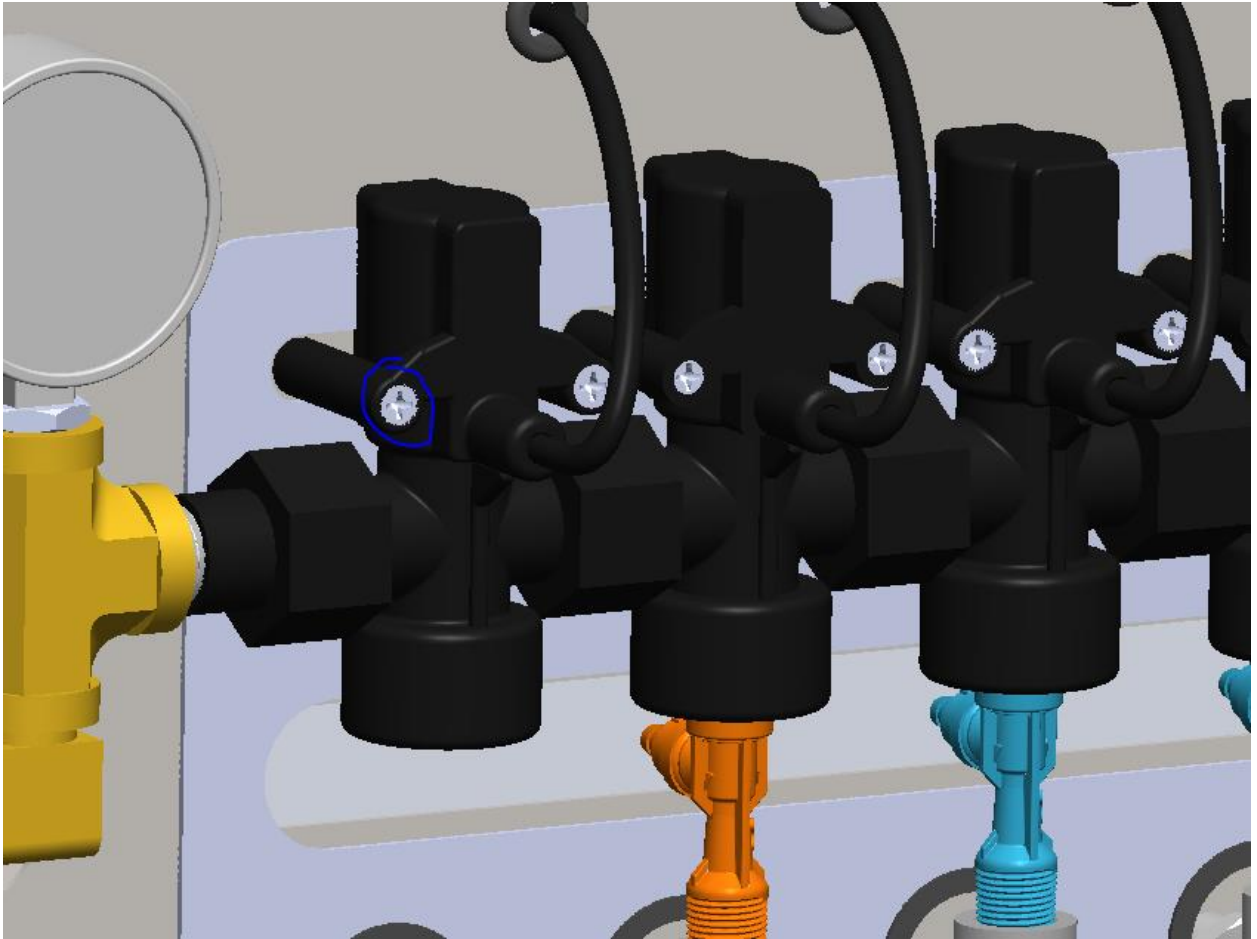

Figure 4. Tighten bolts
5.) Reassemble bolts into manifolds, holding the bracket in place. Shown in Figure 4.